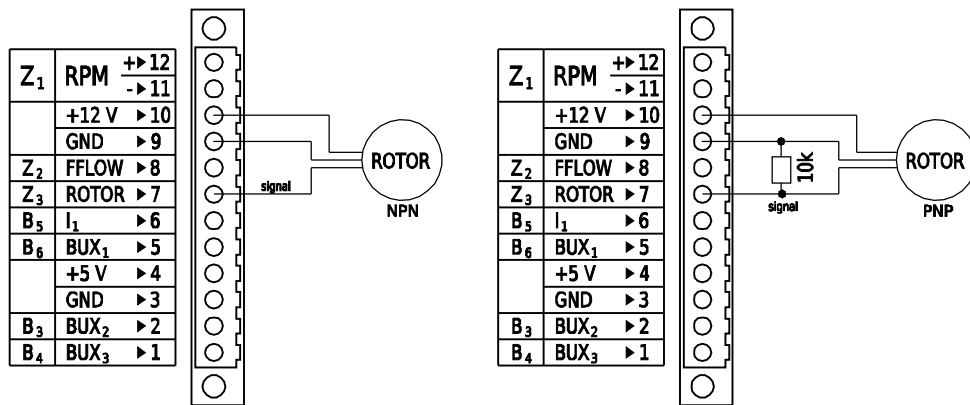

Figure 44: Active inductive RPM sensor connection schema. NPN – Open collector output (left), PNP – open drain output (right).
Connect sensor +5/+12 V *input* with appropriate +5/+12 V pin according to your sensor specifications. Ground is connected to GND pin. Signal must be connected to the correct channel (default is ”+“ pin on Z1, but Z2 or Z3 channels can also be used). See figure 44 (left) for proper connection schema.
Sensor wiring is the same as for NPN sensors, but you have to connect 10 kΩ resistor between Z channel and GND pin. See figure 44 (right) for proper connection schema.
- Connect sensor +5/+12 V *input* with appropriate +5/+12 V pin according to your sensor specifications. Ground is connected to GND pin. Signal must be connected to the correct channel (default channel is Z3, but Z1 and Z2 channels may be also used). See figure 44 (left) for proper connection schema.
- Sensor wiring is the same as for NPN sensors, but you have to connect 10 kΩ resistor between Z channel and GND pin. See figure 44 (right) for proper connection schema.